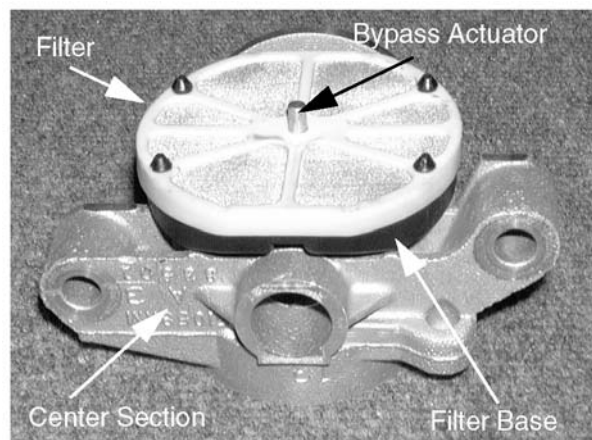

Figure 6-71.
3. Assemble the center section-filter bypass assembly. See Figure 6-71.